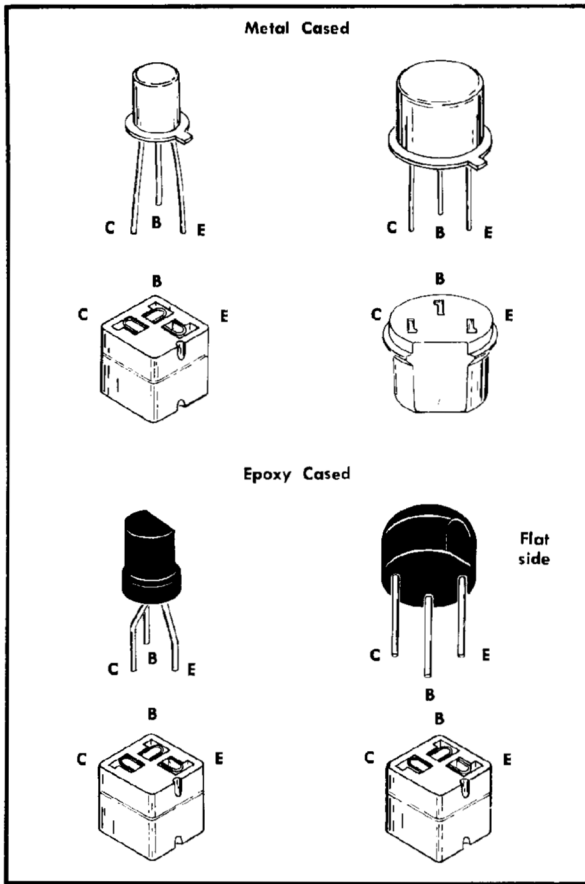

Fig. 4-3. Electrode configurations for socket-mounted transistors: Top View.
**Transistor Lead Configuration.** Fig. 4-3 shows the lead configurations of the transistors used in this instrument. This view is as seen from the bottom of the transistor.